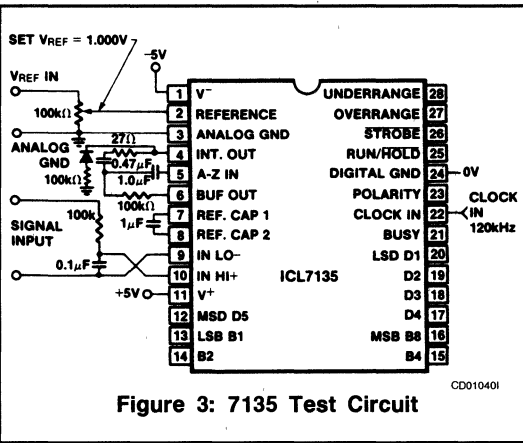

Figure 3: 7135 Test Circuit
1. Tested in 4-1/2 digit (20,000 count) circuit shown in Figure 3, clock frequency 120kHz.